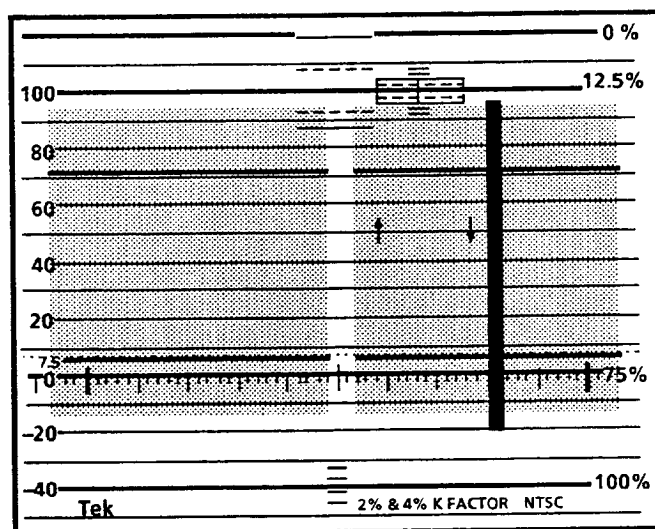

Figure 1-13: 2 Field display with 15 Line mode of LINE SELECT on
- c. Push and hold the LINE SELECT button until the intensified portion of the display increases in width; this is the 15 Line mode of LINE SELECT. See Figure 1-13.